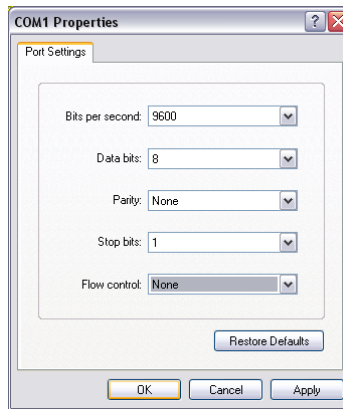

Figure 5-12: Communication Port Properties
- In the COM Properties window set the port properties as shown in Figure 5-12 (Bit per second: 9600, Data bits: 8, Parity: None, Stop bits: 1, Flow control: None).